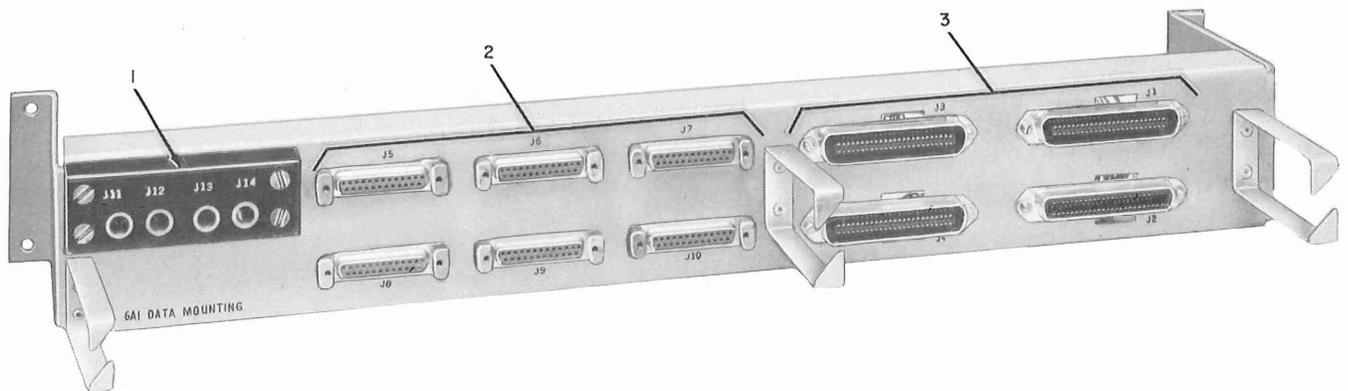

Fig. 1—6A Type Data Mounting
1.01 This section contains a physical and functional description of the 6A Type Data Mounting shown by Fig. 1.
2.01 For identification of the 6A Type Data Mounting refer to Fig. 1. Table A lists the major components shown by Fig. 1.